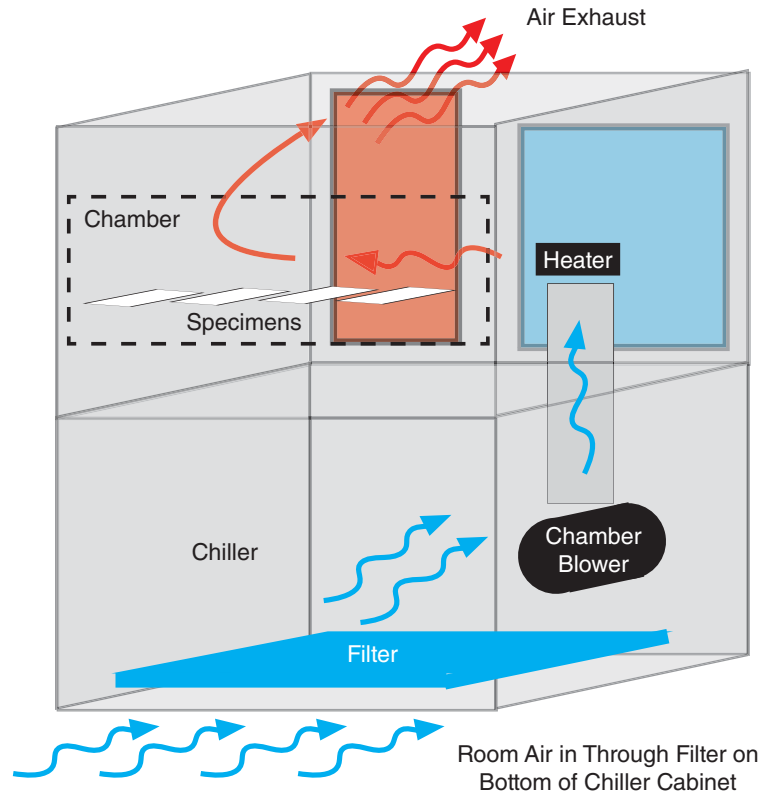

Figure 9.3c: Schematic front view of Xe-1-BCE and Xe-1-SCE air circulation.
- Q-SUN Xe-1-BCE and Xe-1-SCE models cool the test chamber by blowing either room air (if the chiller is off) or room air that has been cooled (if the chiller is on) into the chamber (Figure 9.3c).